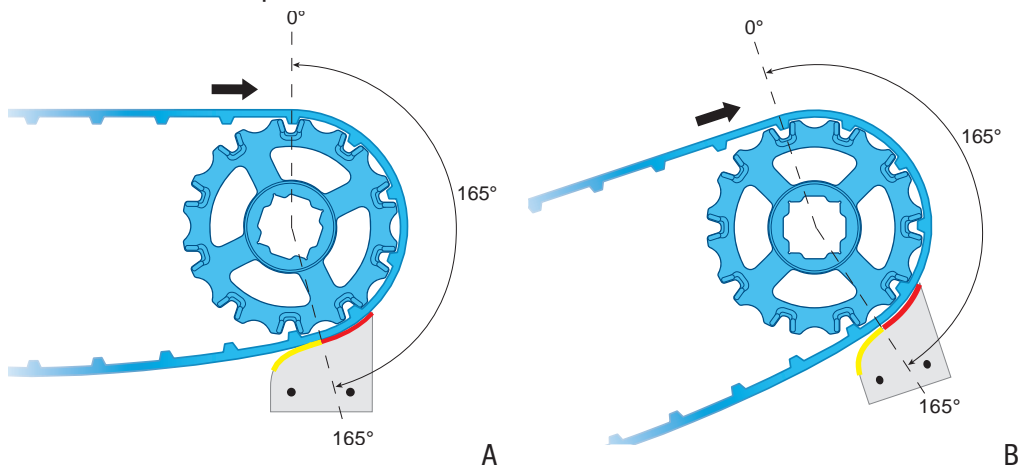

Figure 16
- Place limiters 165-180° from the top of the sprocket (Figure 16, 0°) in the direction of travel to ensure ideal belt wrap for uni-directional applications.
- Design the scraper tip to contact the belt 165-180° from the top of the sprocket (Figure 16, 0°) in the direction of travel.